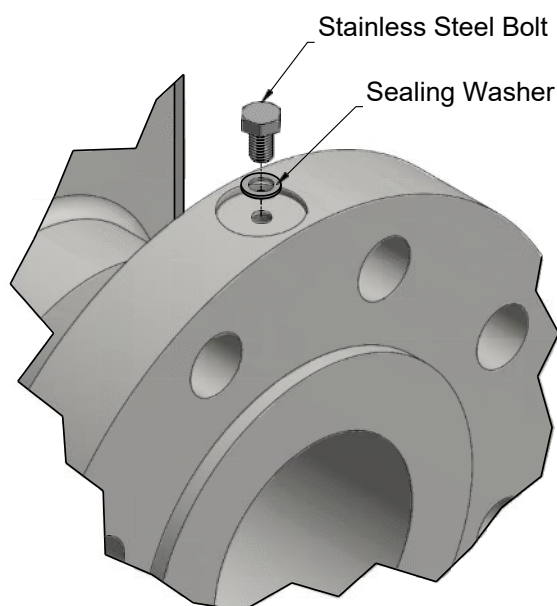

Figure 2.1—Stainless steel bolt and washer in tapped hole of meter body end flange
4. Remove the plug bolts and sealing washers from the tapped holes on top of each meter body end flange and set them aside. The plug bolts will be replaced after the hoist ring is no longer required, as shown in Figure 2.1.